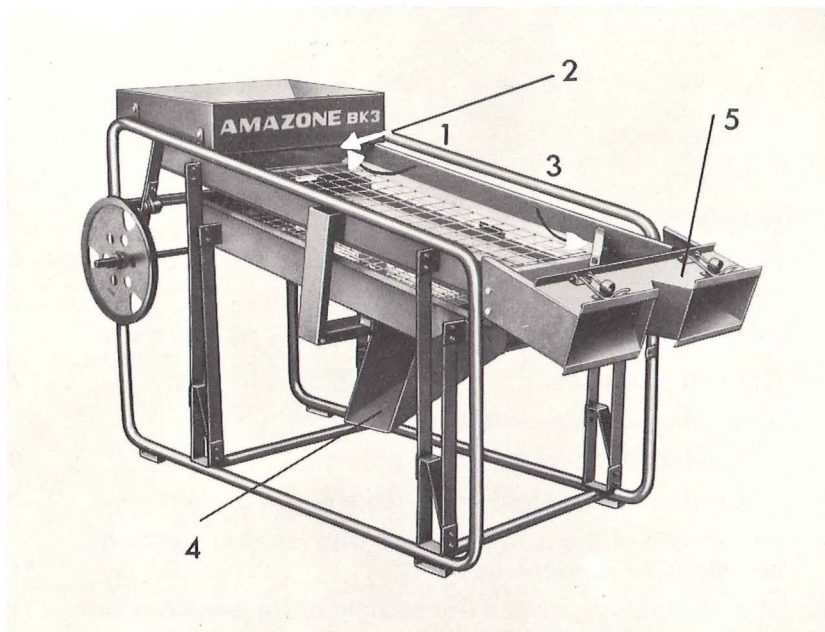

Figure 1
2. Push the riddle in direction of the arrow (Fig. 1/1) underneath the filling chute (Fig. 1/2).
4. Pull out the riddle upward in direction of the outlet (Fig. 1/3).
Put the sack from underneath around the chute (Fig. 1/5) with both hands, pull at the free end until tight, fold it around the clamping block and push down the clamp (on top of the chute) until the sack fits tightly.
The outlet for small feed potatoes (Fig. 1/4) may be attached to the grader BK 3 either showing to the left or to the right side. These small potatoes may be collected in baskets.
1. Remove the sack filling chutes on the lower end of the grader BK 3 (Fig. 1/5).